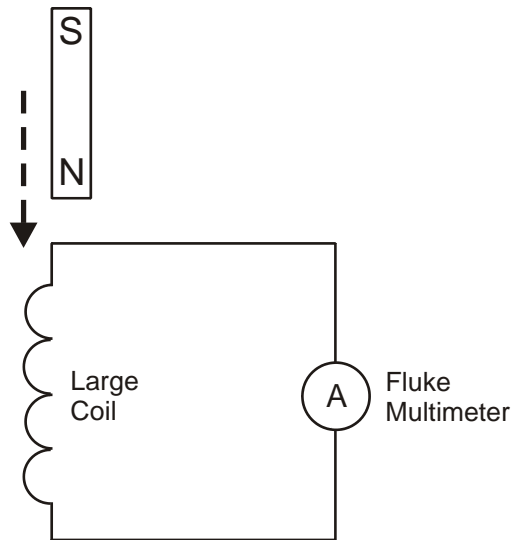

Figure 36
- Connect the large coil to the multimeter as figure 36.